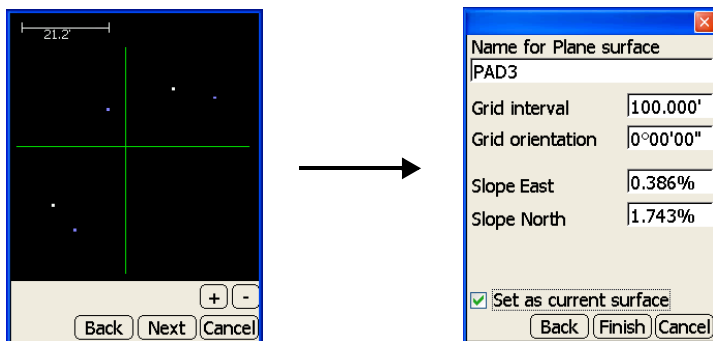

Figure 2-34. Best-fit Plane Surface Preview
The **preview** dialog box displays the Planar Surface created from the selected points and/or lines (Figure 2-34). Press the **+/-** buttons to zoom in or out on the image, or press down on the screen to pan the image around. Press **Next** to continue.
4. On the **best-fit plane surface parameters** dialog box, enter or select the following information, and press **Finish** (Figure 2-34).